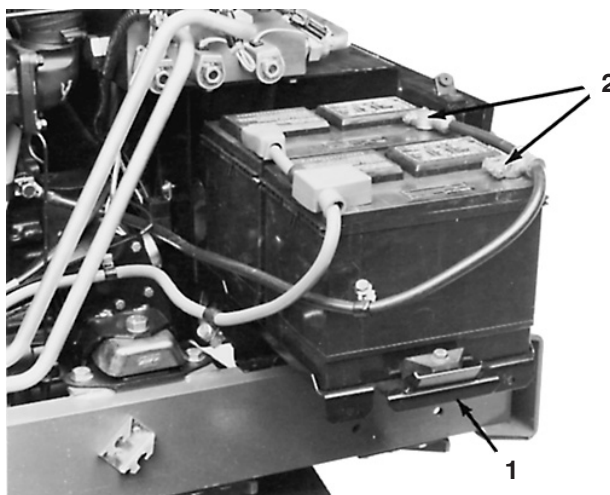

Figure 56
2. Remove capscrews securing battery tray to machine and slide tray out (Fig. 56).
4. Remove negative (–) battery cable connectors from batteries (Fig. 56). Connect a 3 to 4 amp. battery charger to the posts. Charge the batteries at a rate of 3 to 4 Amperes for 4 to 8 hours.